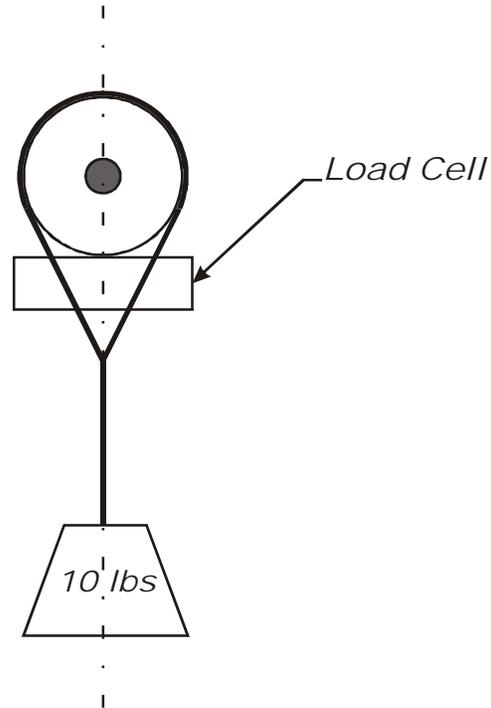

FIG. 2-23 TEST WEIGHT CONFIGURATION
- Apply a known test weight to the roller or sheave. (See Fig. 2-23)